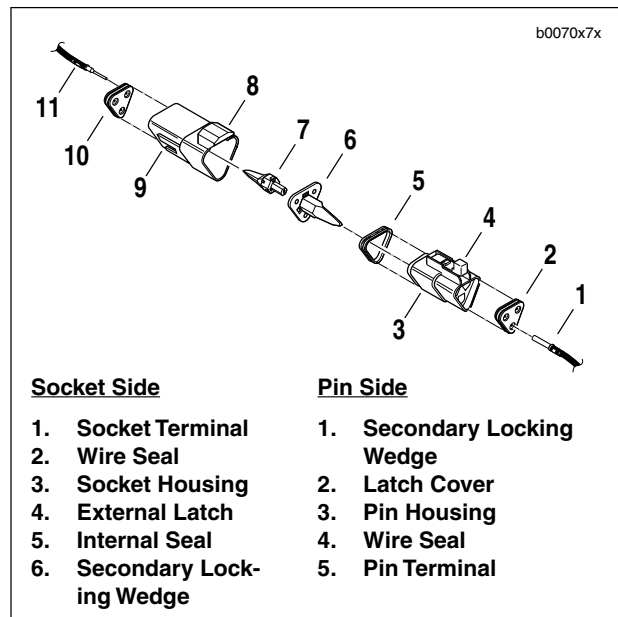

Figure B-1. 3-Pin Connector
1. See Figure B-1. Remove the secondary locking wedge (6). Insert the blade of a small screwdriver between the socket housing and locking wedge inline with the groove (inline with the pin holes if the groove is absent). Turn the screwdriver 90° to pop the wedge up.
2. Gently depress terminal latches inside socket housing (3) and back out socket terminals (1) through holes in rear wire seal (2).
3. Fit rear wire seal (2) into back of socket housing, if removed. Grasp socket terminal approximately 1.0 in. (25.4 mm) behind the contact barrel. Gently push sockets through holes in wire seal into their respective chambers. Feed socket into chamber until it “clicks” in place. Verify that socket will not back out of chamber; a slight tug on the wire will confirm that it is properly locked in place.
4. Install internal seal (5) on lip of socket housing, if removed. Insert tapered end of secondary locking wedge (6) into socket housing and press down until it snaps in place. The wedge fits into the center groove within the socket housing and holds the terminal latches tightly closed.
1. See Figure B-1. Remove the secondary locking wedge (7). Use the hooked end of a stiff piece of mechanic's wire or a needle nose pliers, whichever is most suitable.